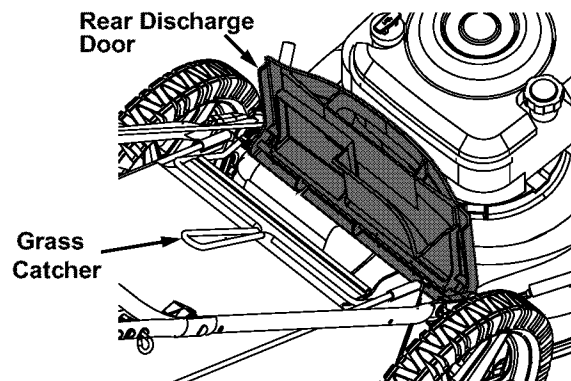

Figure 8
1. Lift the rear discharge door and place the grass catcher on the pivot rod. Let go of the discharge door so that it rests on the grass catcher. See Figure 8 .